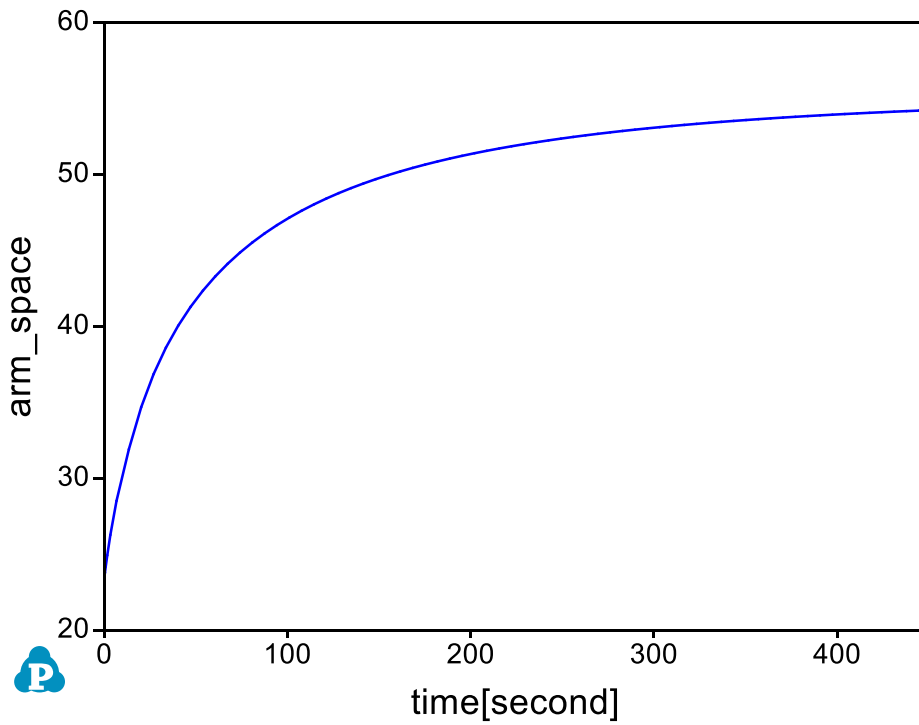

Figure 5.1.4: The evolution of secondary dendrite arm spacing.
- The evolution of secondary dendrite arm spacing during solidification is shown in Figure 5.1.4.